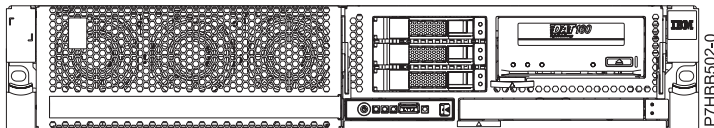

Figure 2. Disk drive backplane with tape
11. Remove the media device by pressing up and then pulling the latch (A) to slide the media device out of the system. See Figure 2 or 3 based on the configuration of your system.